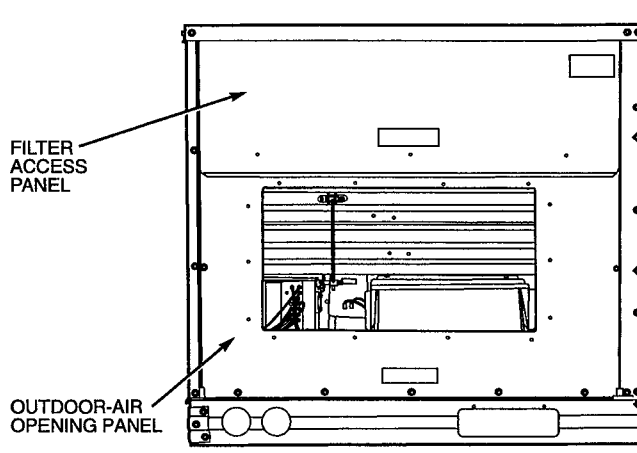

Fig. 22 — Panels Reinstalled On Unit
8. Replace outdoor-air opening panel using screws from Step 2. Replace filter access panel. Ensure the filter access panel slides along the tracks and is securely engaged. See Fig. 22.